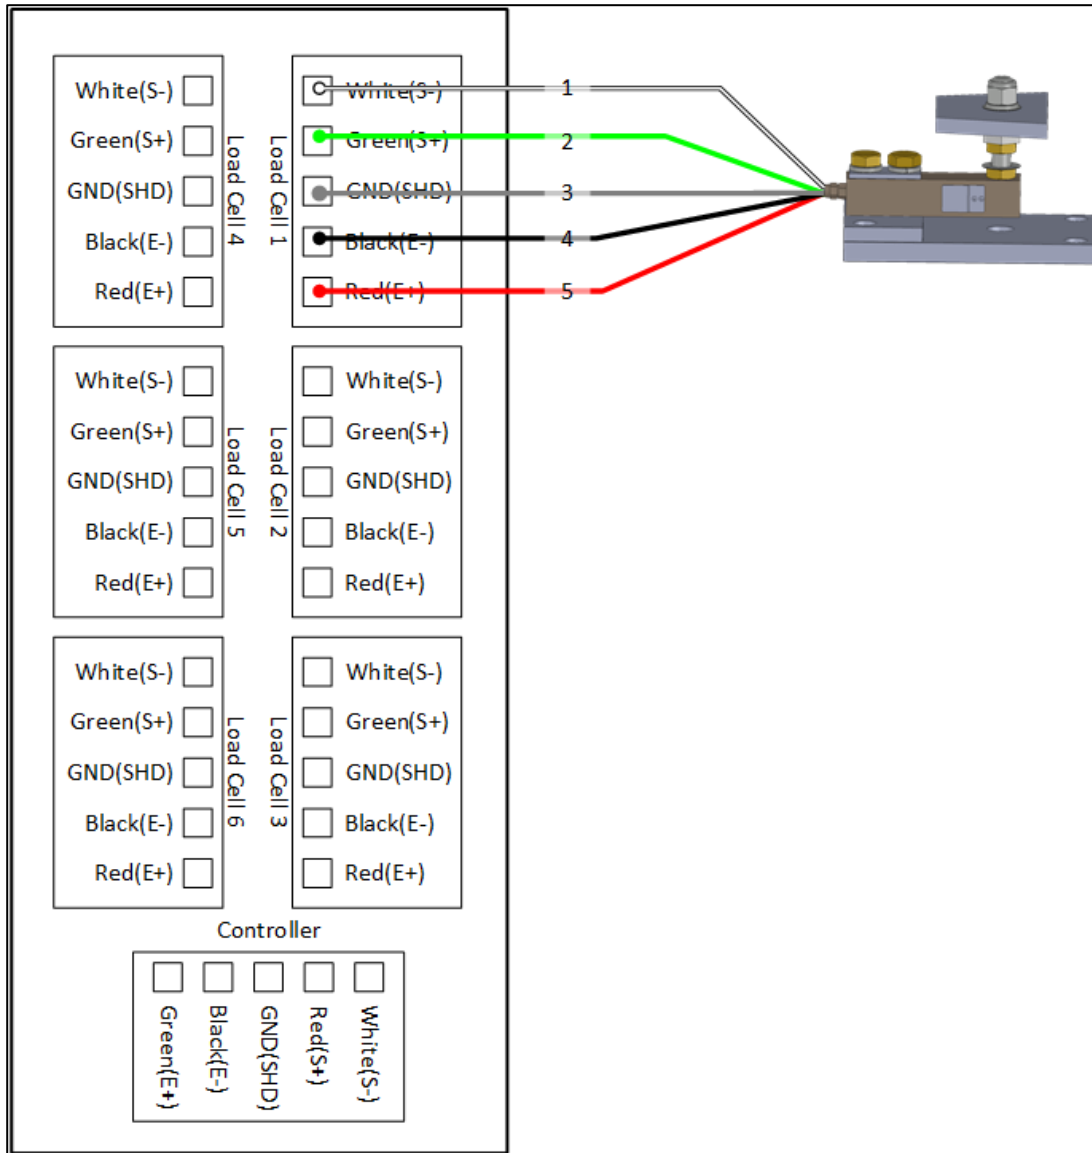

Figure 6: RJB –RSLC Wiring
5. Wire the RJB-6 units to the RSLC units. Each RSLC (load cell) has four-wire shielded cables plus a shield cable (ground). Connect each load cell to the RJB-6 according to the colors inscribed on the RJB PCB board (Figure 6).